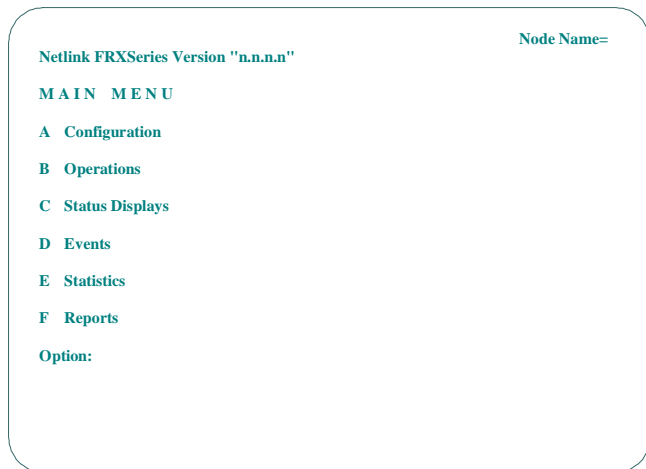

Figure 8 Main Menu
2. To log in, press **[F1]** at the Port Status Display, then enter the FRX6000 password when requested. (The default password when the software is installed is **NETLINK**.) Once the password has been entered, the Main Menu (Figure 8) will be displayed.